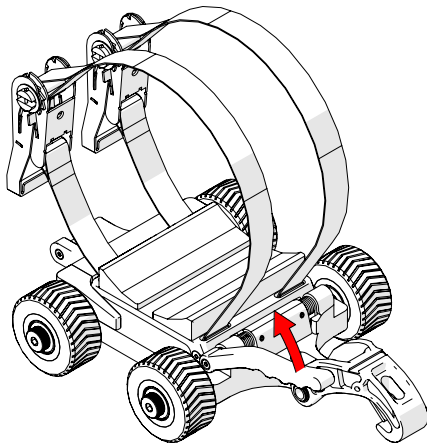
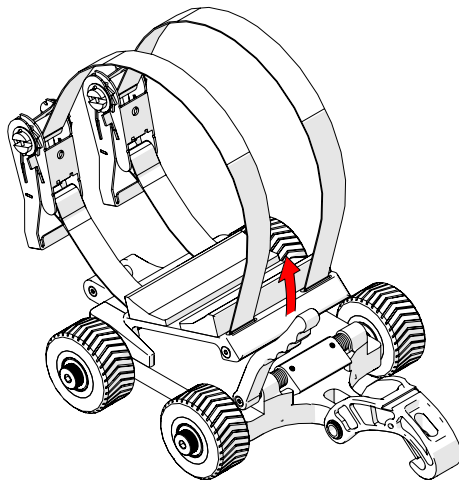

Fig. 41 - Lift lever to release mounting plate
Fig. 42 - Slightly angle mounting plate to remove
1. Lift the lever on the source cart base (Fig. 41) to remove the mounting plate (Fig. 42).